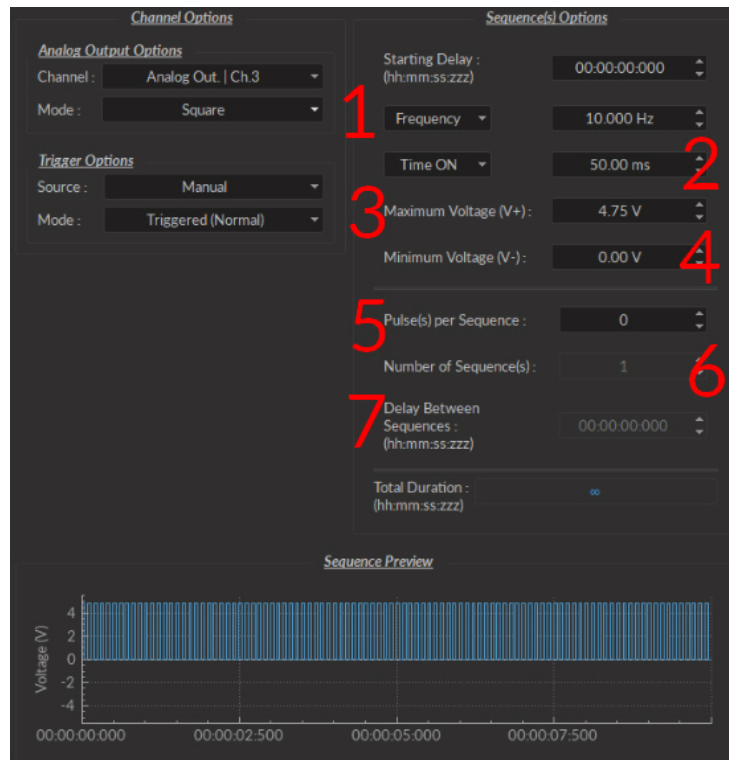

Figure 3.20: Channel(s) configuration window, Analog Output Square
- The **Square** channel mode (Fig. 3.20) creates a sequence of pulses with the minimum of the pulses at **V-** and the maximum of each pulse at **V+**. This includes all sequence options as the **CW** mode, with the following additions.
1. The **Frequency** (Fig. 3.20) sets the frequency (in Hz), which is the number of pulses per second. The frequency can also be changed to the **Period**. For example, a signal at 10 Hz (frequency) will output one pulse every 100 ms (period), whereas a signal at 0.5 Hz (frequency) will output one pulse every 2 seconds (period).
2. The **Time ON** (Fig. 3.20) defines the length of a single pulse. This time can also be converted to a **Duty Cycle**, which indicates the % of the period the pulse duration corresponds to.
3. The **Maximum Voltage (V+)** (Fig. 3.20) defines the maximum voltage of each pulse, in volts. The signal cannot go beyond +4.75 V.
4. The **Minimum Voltage (V-)** (Fig. 3.20) defines the minimum voltage of each pulse, in volts. The signal cannot go beyond -4.75 V.
5. The **Pulse(s) per sequence** (Fig. 3.20) set the number of pulses per sequence. If it is set to 0, the number of pulses will be infinite.
6. The **Number of sequence(s)**(Fig. 3.20) sets the number of times that the sequence will be repeated.
7. The **Delay between sequences** (Fig. 3.20) sets the delay between each sequence.